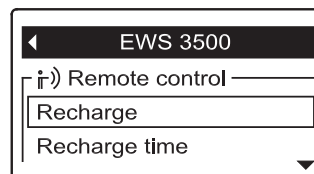

FIG. 60
2. Press the remote's SELECT (○) button to display the device menu (See Figure 60).
3. If necessary, press the DOWN (▼) button to scroll through the menu options until **Recharge** is highlighted in a box (See Figure 60).
6. Press the SELECT (○) button. The display will go back to the conditioner/refiner menu (Figure 60).